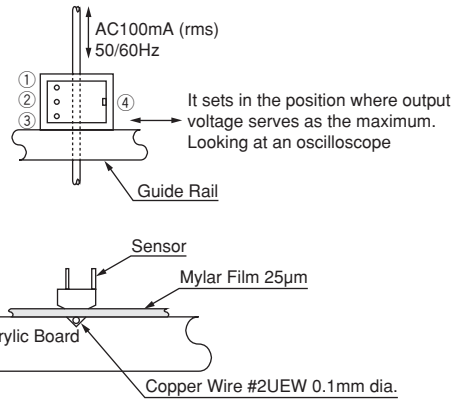

Figure 2. Test Fixture For Output Voltage Measurement
2) Sensor is set in the test fixture as shown in Figure 2.